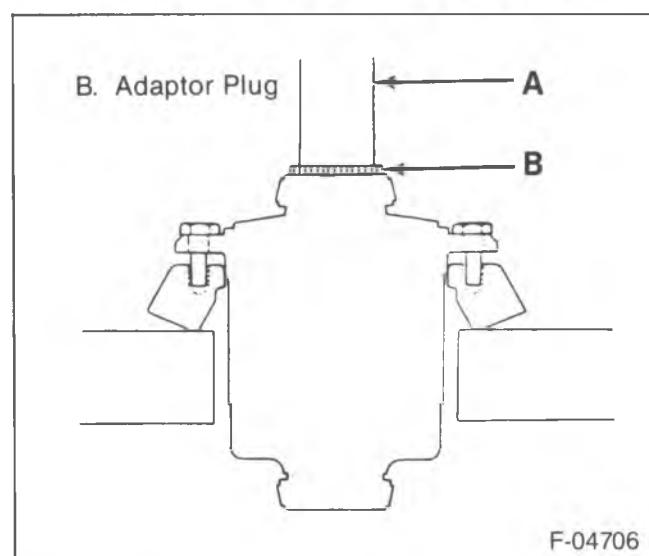
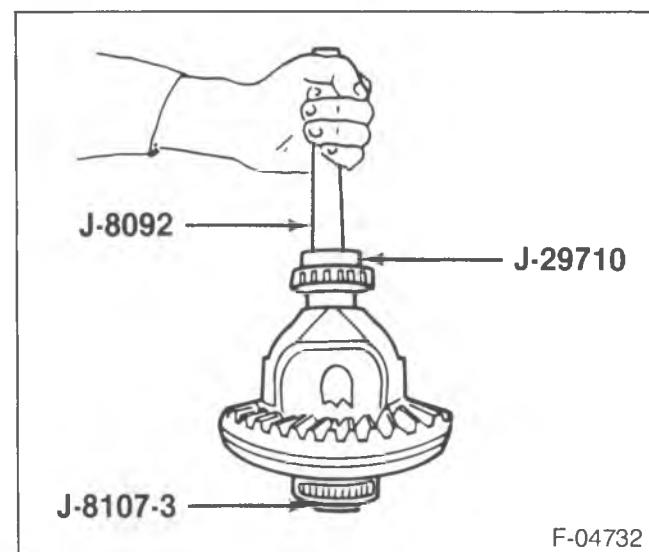

Figure 19—Installing the Ring Gear to the Case
Figure 20—Installing the Side Bearing
- Press the ring gear onto the case far enough to start the bolts using J 8107-3 to protect the differential from the press ram (figure 19).
- New ring gear bolts (26).
- Differential side bearings (22) using J 29710, J 8107-3 and J 8092 (figure 20).